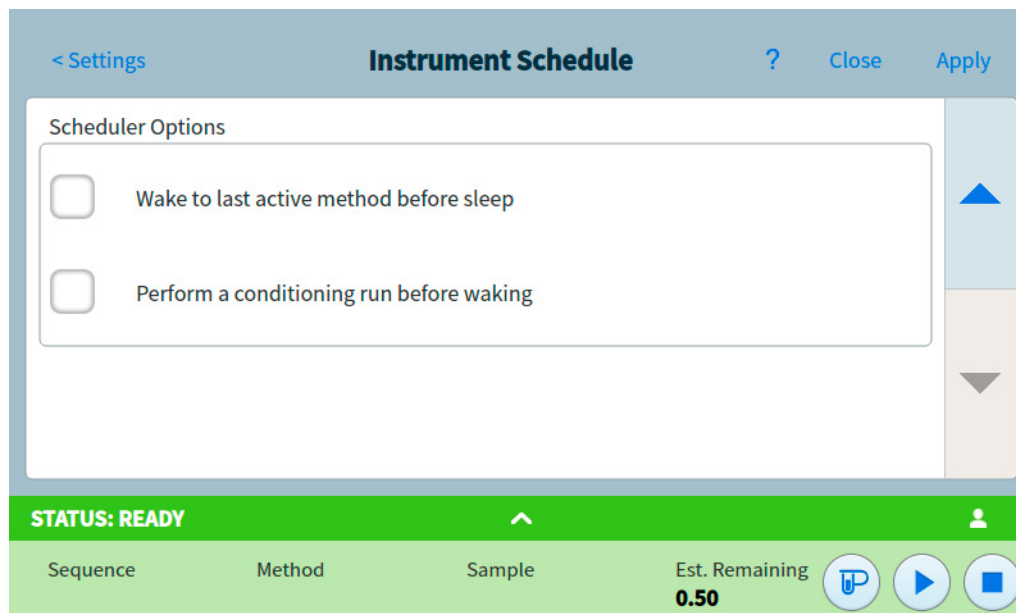

Figure 64. Scheduler Options area
- 3 Scroll to the Scheduler Options area. See **Figure 64**.